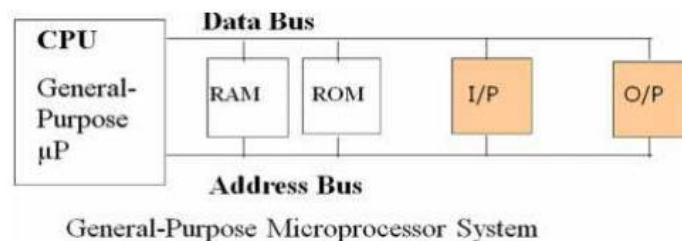

Fig.1: Block diagram of a microcomputer
5. The hardware design of a microprocessor is arranged such that a very small or very large system can be configured around the CPU as the application demands as shown in Fig1.